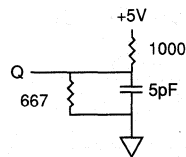

Fig. 2 OUTPUT LOAD EQUIVALENT
6. t^{HZCS}, t^{HZOE}, and t^{HZWE} are specified with CL = 5pF as in Fig. 2. Transition is measured ±500mV from steady state voltage.